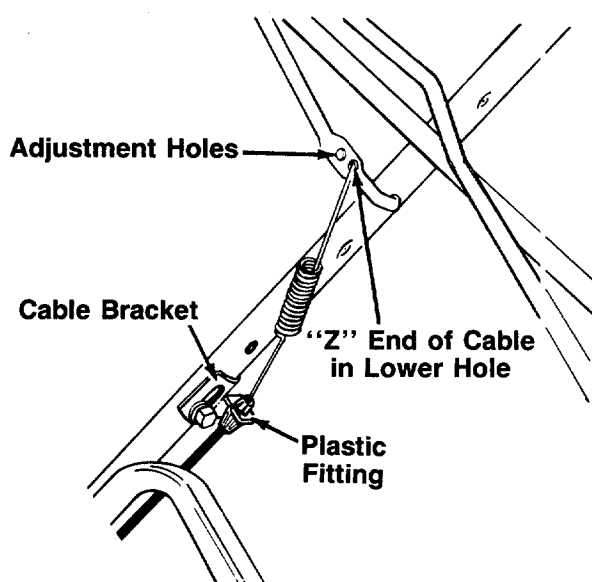

FIGURE 4.
1. The drive clutch cable is attached to the drive cover, and has a spring on one end. Route the cable under the cover lower handle. Hook the spring on the end of the cable into the lower hole on the drive clutch handle. See figure 4.
3. With the drive clutch control handle released, pull down on the cable and cable bracket until there is a minimum of 1/8" clearance between the drive pinions and the drive wheels. See figure 4 and 5. Tighten the cable bracket in this position.